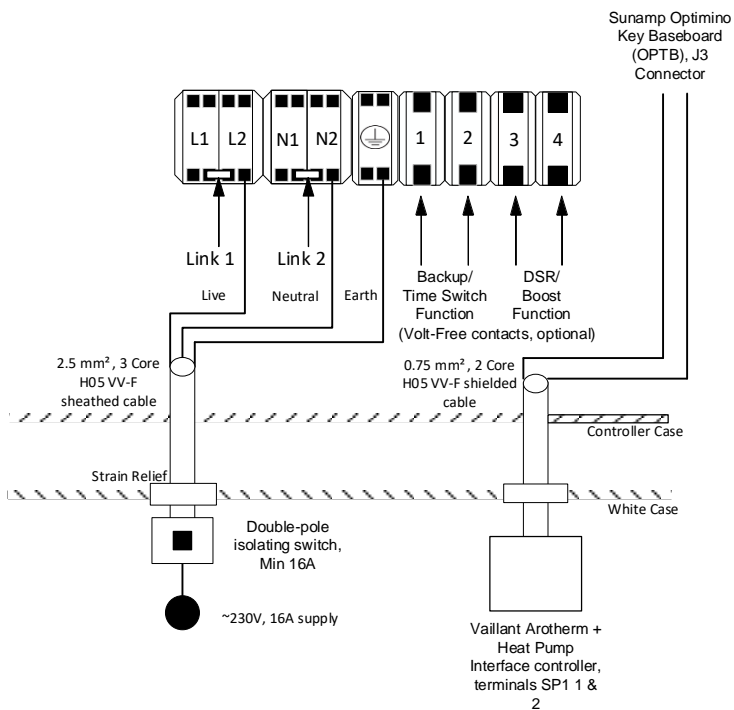

Figure VT.1 - Thermino xPlus with VT01 Optimino Key
- Thermino xPlus with the “VT01” & “VT02” Optimino Keys (D0084 – Section 6.3.2 for wiring instructions & Figure VT.1 below)
cables in terminals J3 on the Optimino Board J3, please see Figures VT.1 & VT.2 below for reference.